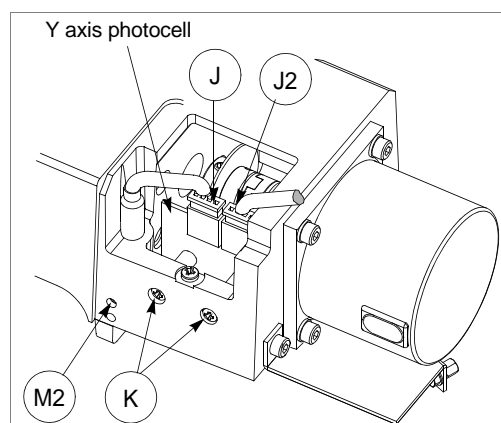

Fig. 150
- 4) disconnect the (J2) photocell cable and (J) sensor cable (fig. 150).
- 5) unscrew the 2 (K) screws that hold the photocell card and remove it from the carriage.
- 6) place the new photocell card in the carriage and tighten the 2 (K) supporting screws.